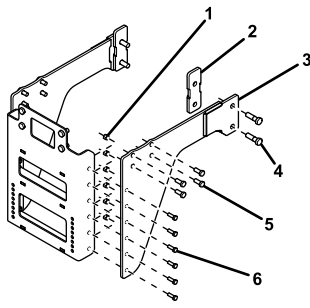

Figure 2
5. Loosely secure the front of each sideplate to the frame using 4 bolts (M16) as shown in Figure 2.
6. Loosely secure the rear of each sideplate to the frame using a spacer and 2 bolts (M20) as shown in Figure 2. If the machine is equipped with loader brackets, the spacer can be discarded.
7. Secure each sideplate to the front plate using 6 bolts (1/2 inch) and nuts (Figure 2).